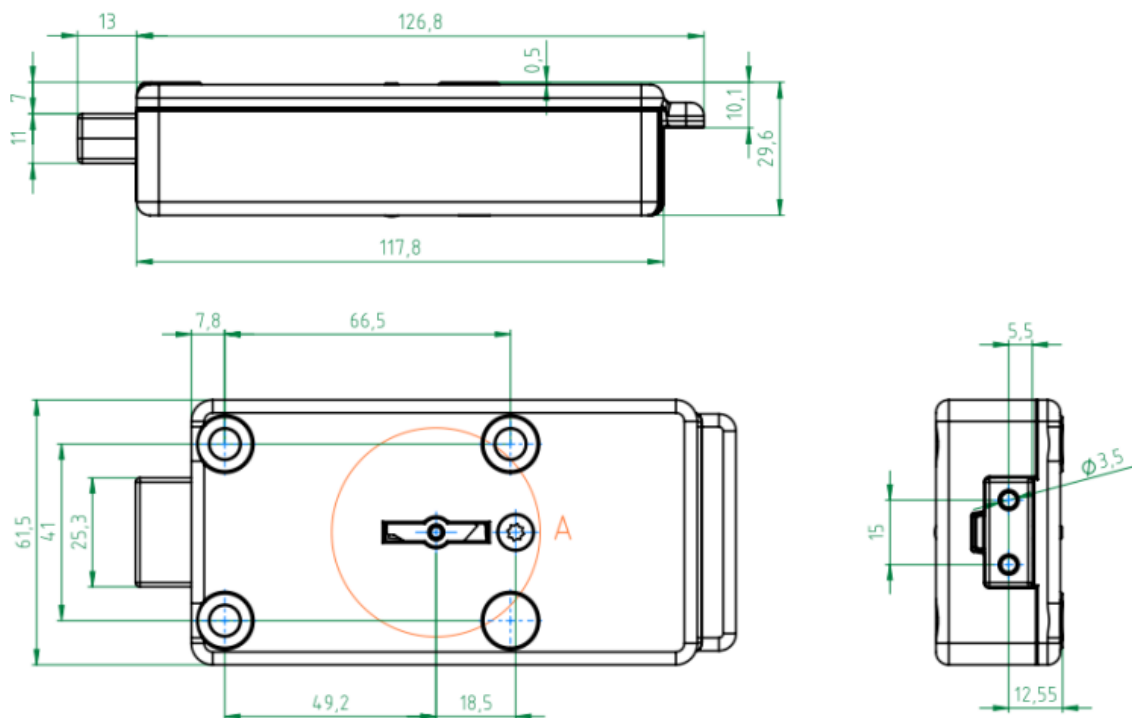

Figure 1 - Dimensional drawing
- Figure 1 - Dimensional drawing 3